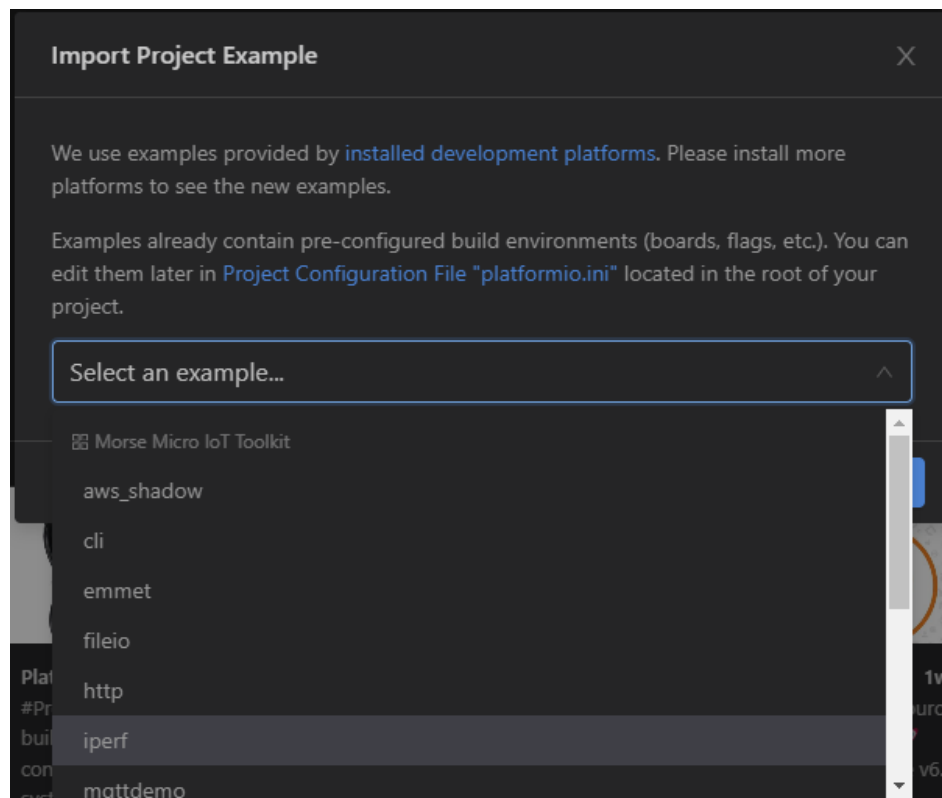

Figure 11. Importing mm-iot-framework examples
4. The example projects for “Morse Micro IoT Toolkit” will be visible (Figure 11). Select one of the projects (for example, ‘iperf’) and click *Import*. A copy of the example project is created and it can be freely modified.